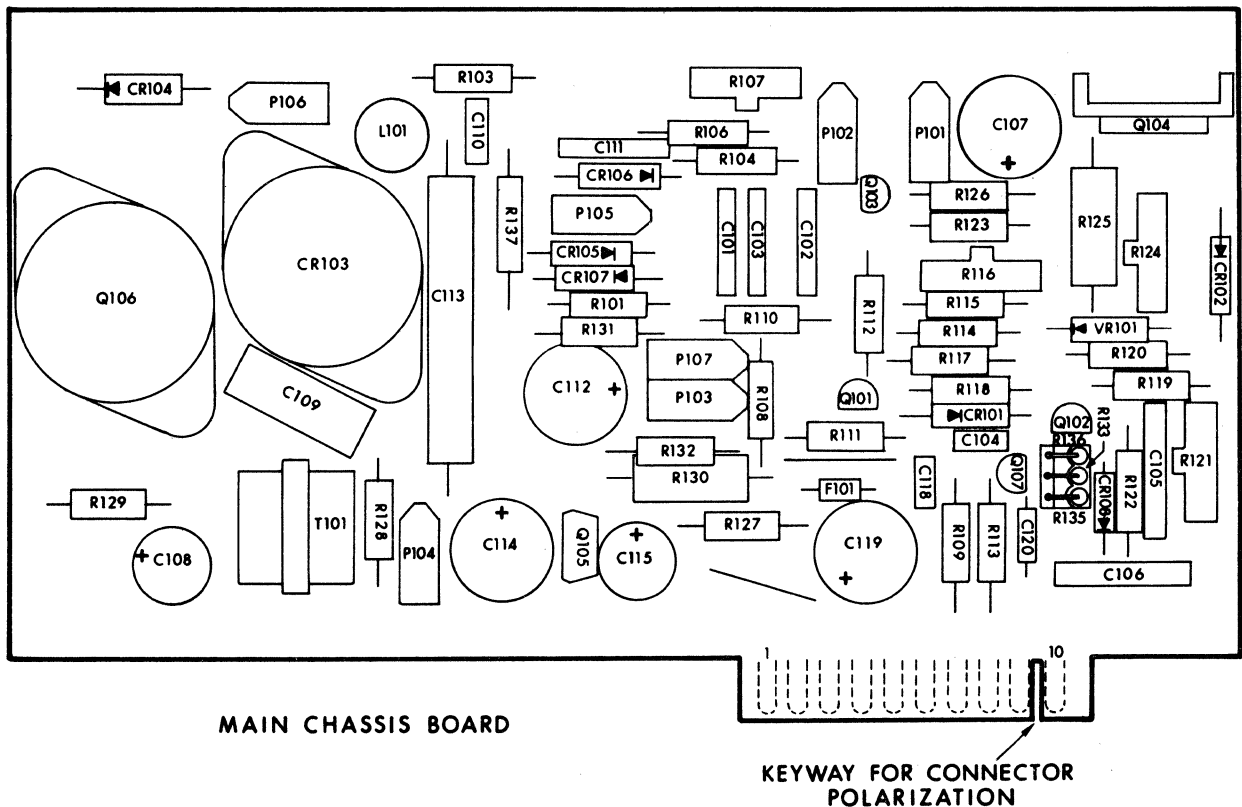

Figure 8-2 Location of Adjustments on CRT Circuit Board
2. Set vertical frequency control (R116, Figure 8-2) near mechanical center of its rotation.
Raster width is affected by a combination of the low voltage supply, the width coil (L101, Figure 8-2), and the horizontal linearity sleeve located on the neck of the CRT beneath the yoke.
The focus control (R107, Figure 8-2) provides an adjustment for maintaining best overall display focus. However, because of the construction of the gun assembly in the CRT, this control does not have a large effect on the focus.